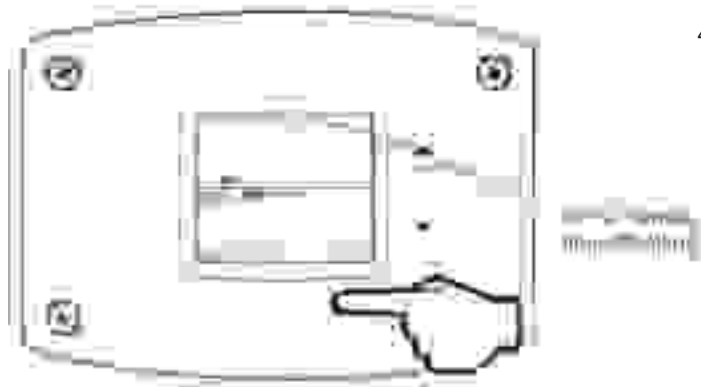

Fig. 64
4. Press 'Set' button to confirm °F or °C format. °F/°C will stop flashing (Fig. 64).